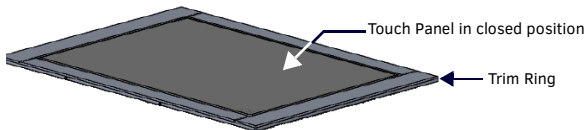

FIG. 4 HPX TOUCH INSTALLED IN THE MOUNTING SURFACE CUTOUT
- Slide the HPX-MSP-10 into the cutout. Make sure that the top of the unit is level and nearly flush with the top of the mounting surface (FIG. 4):